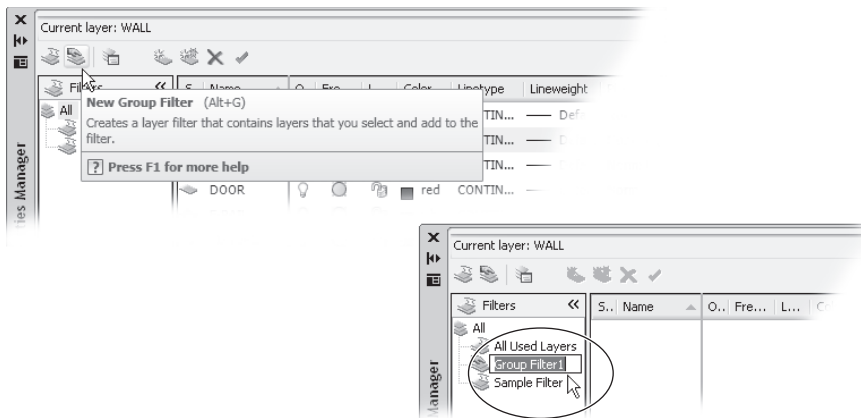

Figure 7.25
1. In the upper-left corner of the Layer Properties Manager, click the New Group Filter tool shown in Figure 7.25. You see a new listing appear called Group Filter1.